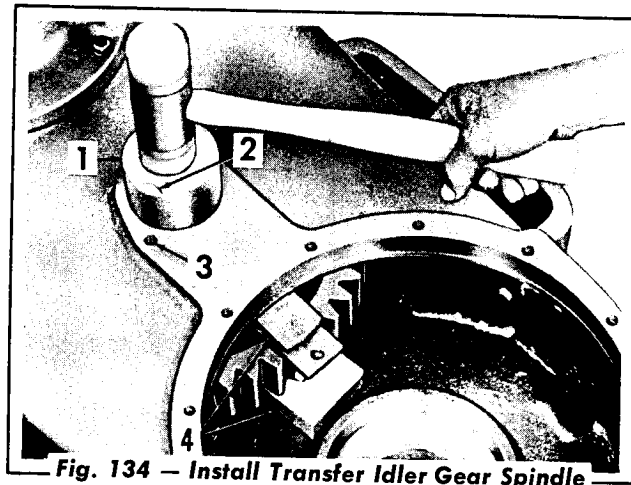

Fig. 134 — Install Transfer Idler Gear Spindle
5. Install the transfer idler gear spindle (Fig. 134) into its bore, aligning the recess in the spindle with the capscrew hole in the housing. Use a soft hammer to seat the spindle. If necessary, use blocks between the trans-